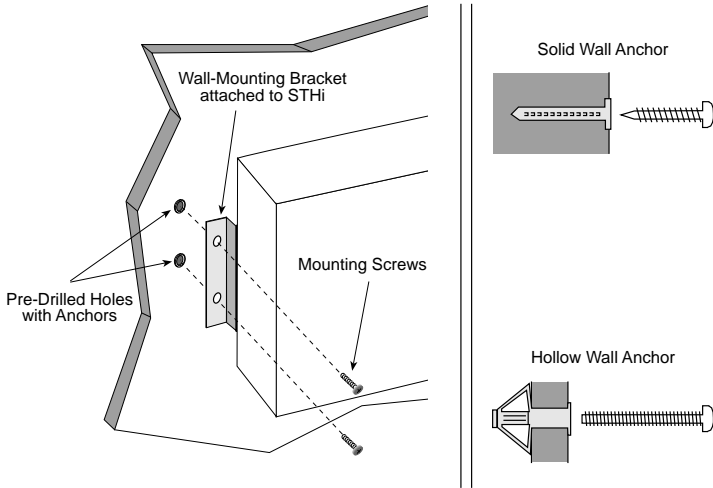

Figure 3-5. Wall-mounting the STHI
3. Get a pencil and refer to Figure 3-5. With the wall-mounting brackets attached to the STHI, position the STHI against the wall where it will be permanently mounted, with the network ports facing down, and mark the screw holes' positions on the wall.
5. Install the screw anchors. If installing on a hollow wall, use the provided Molly bolt anchors (pictured in collapsed form as "Hollow Wall Anchor" in Figure 3-5): insert the anchor into the hole, tighten the screw to collapse the anchor's bracing arms, and remove the screw. If installing on a solid wall, a different type of anchor will be required.